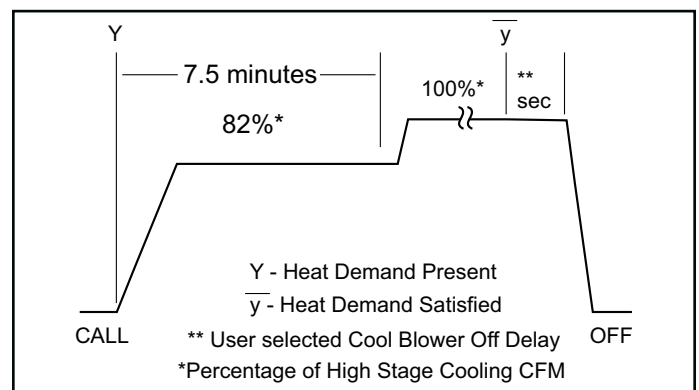
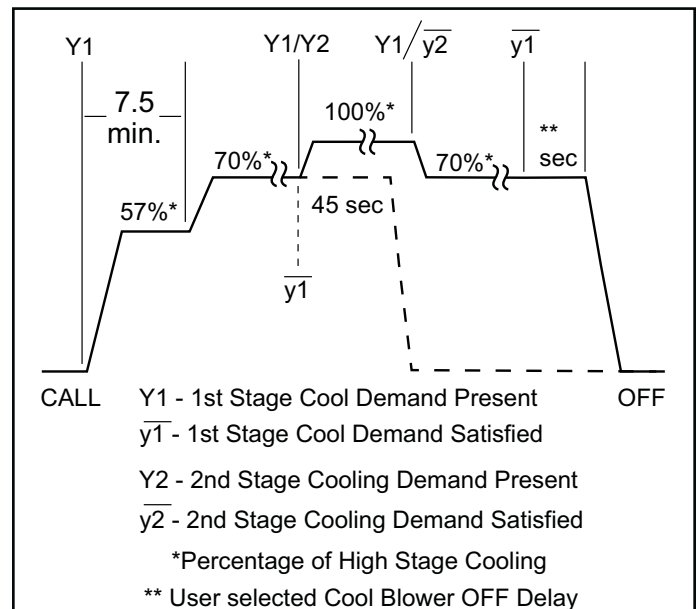

Figure 70. Indoor Blower Operation - Single Stage Cooling
Figure 71. Indoor Blower Operation - Two Stage Cooling
Refer to Figure 70 and Figure 71 for field wiring.
5. Complete the wiring connections to the equipment. Use the provided field wiring diagram shown in Figure 70 and Figure 71. Use 18 gauge wire or larger that is suitable for Class II rating for thermostat connections.